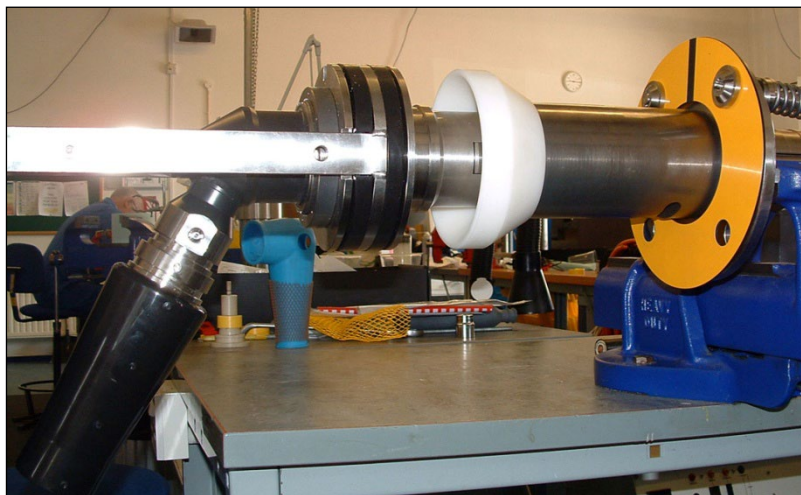

Figure 13 - Key on Plug locating in to slot in Receptacle.
4. Show the Plug connector nose in to the shroud of Receptacle, and initially locate the key on the Plug nose into the slot of the Receptacle shroud, as shown below in Figure 13.